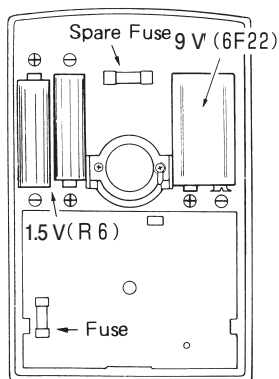

Fig. 16
2. When the fuse is blown, the tester fails to work. Replace it with the spare fuse (5 mm dia  $\times$  20 mm, 500 mA/250 V). Refer to Fig. 16 for its position.